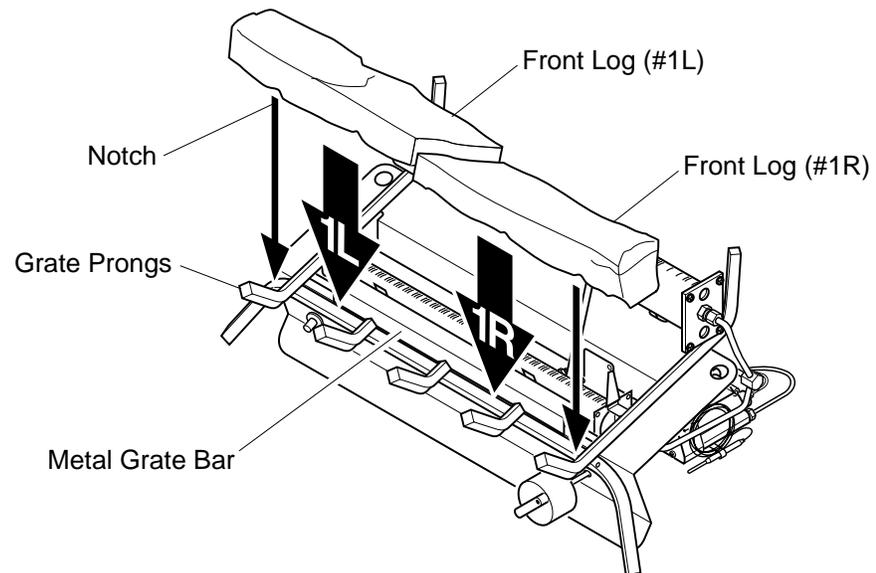

Figure 17 - Installing Front Logs (#1L and #1R)
1. Place front logs (#1L and #1R) on top of the grate. Make sure the notches in the bottom of the logs fit over the grate prongs (see Figure 17). Push back of logs flush with metal grate bar.